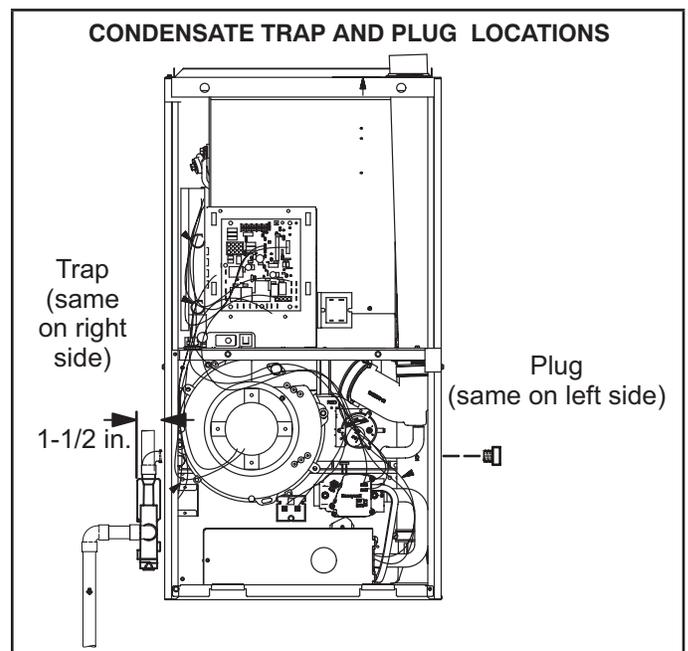

FIGURE 48
This unit is designed for either right- or left-side exit of condensate piping. Refer to FIGURE 48 and FIGURE 50 for condensate trap locations.
- 2 - Use a large flat head screw driver or a 1/2" drive socket extension and remove plug (figure 48) from the cold end header box at the appropriate location on the side of the unit. Install provided 3/4 NPT street elbow fitting into cold end header box. Use Teflon tape or appropriate pipe dope.